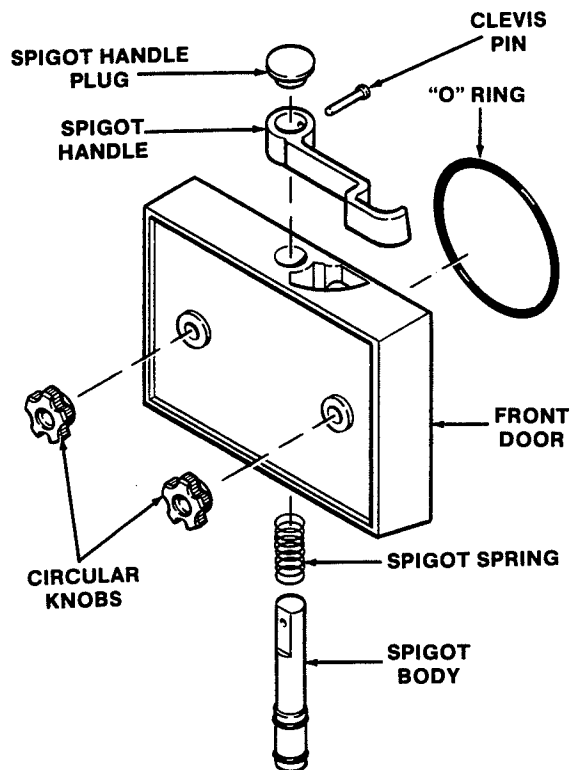

Figure 21. Removing Spigot
- C. Remove the spigot body from the front door by pulling the clevis pin out of the spigot handle. Push the spigot body thru the bottom of the front door (Fig. 21). Remove spigot body and spring.